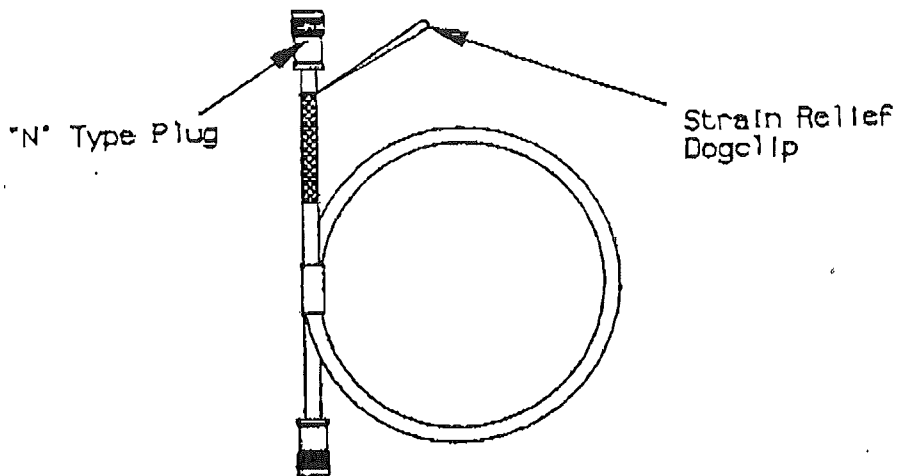

Figure 1-6. Coaxial Feed Wire
The antenna kit contains 18 meters (59 feet) of coaxial cable (RG213U-USA/URM67-UK) terminated with two (2) N type plug connectors. The upper end of the cable is fitted with a strain relief stocking which should be attached by its dog clip to the Balun strong point. See Figure 1-6.